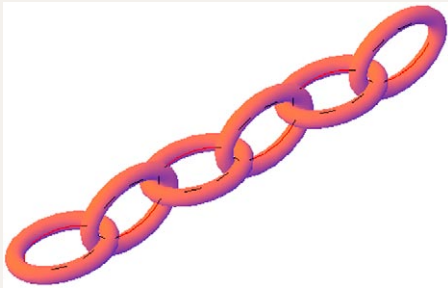

Fig. 13.17 Exercise 3
- Each link of the chain shown in Fig. 13.17 has been constructed using the tool **Extrude** and extruding a small circle along an elliptical path. Copies of the link were then made, half